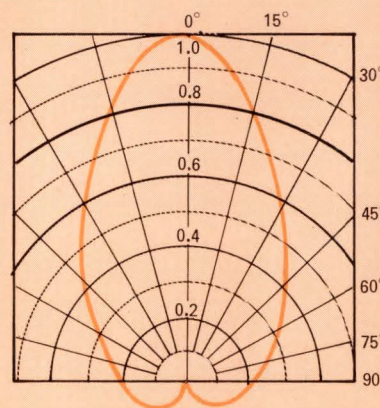

Fig. 4—Spatial distribution pattern of a nonisotropic light source shows that intensity varies with viewing angle.
No actual light source is isotropic, so it is quite common to plot luminous intensity versus angle off the axis (Fig. 4). Of course, if the source has no axis of symmetry, a more complex diagram is required.
Fig. 4—Indirect measurement of power supply line/load regulation and stability.  $R_1 - R_2$  constitute a voltage divider of known, stable value, calibrated as in Fig. 3. For voltages within the range of the voltage standard, this divider may be omitted and the galvanometer connected directly to (A). With the switch open, the ac input to the supply is adjusted to maximum rated ac line voltage. DC output of the supply is adjusted to its rated value, and the voltage standard is adjusted for a galvanometer null. The ac input is then adjusted to minimum rated line voltage, and the voltage standard is again nulled (recording its settings each time). Similar measurements are made with the switch open and closed, using a resistive load that has been selected to draw full rated load current from the supply when the ac input is adjusted to nominal line voltage. Stability (output drift) is measured by nulling the standard twice: first against the initial dc output, and again after a specified interval of time has elapsed. From such recorded measurements, it is a simple matter to calculate the regulation and stability of the dc supply under any desired combination of operating conditions and environment.
**Fig. 4** shows the simple technique for precision measurement of line and load regulation, stability, and internal impedance (at dc) of dc power supplies at any voltage level.